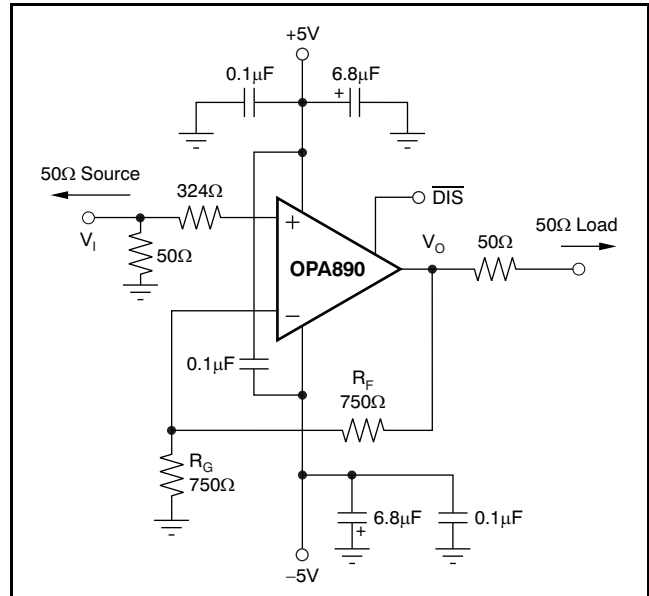
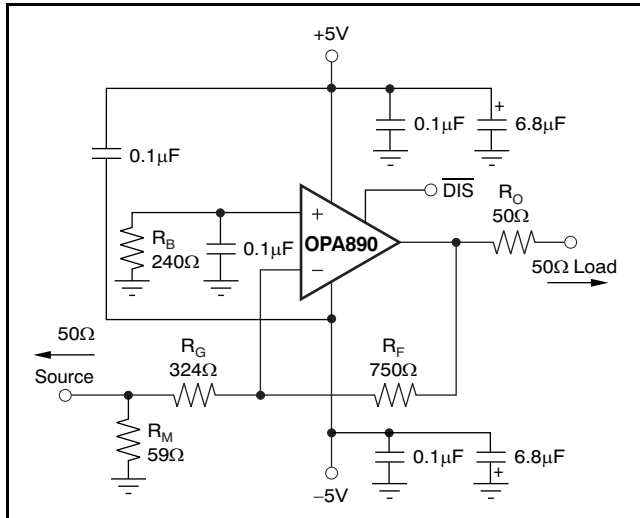

Figure 46. DC-Coupled, G = +2, Bipolar Supply, Specification and Test Circuit
Figure 51. Gain of $-2V/V$ Example Circuit
Figure 46 shows the dc-coupled, gain of +2, dual power-supply circuit configuration used as the basis of the $\pm 5\text{V}$ Electrical Characteristics and Typical Characteristics. For test purposes, the input impedance is set to 50 Ω with a resistor to ground and the output impedance is set to 50 Ω with a series output resistor. Voltage swings reported in the Typical Characteristics are taken directly at the input and output pins, while output powers (dBm) are at the matched 50 Ω load. For the circuit of Figure 46, the total effective load will be 100 Ω – 1.5k Ω . The disable control line is typically left open to ensure normal amplifier operation. Two optional components are included in Figure 46. An additional resistor (324 Ω) is included in series with the noninverting input. Combined with the 25 Ω dc source resistance looking back towards the signal generator, this configuration gives an input bias current cancelling resistance that matches the 375 Ω source resistance seen at the inverting input (see the DC Accuracy and Offset Control section). In addition to the usual power-supply decoupling capacitors to ground, a 0.1 μF capacitor is included between the two power-supply pins. In practical printed circuit board (PCB) layouts, this optional-added capacitor typically improves the 2nd-harmonic distortion performance by 3dB to 6dB.
Voltage-feedback op amps exhibit decreasing closed-loop bandwidth as the signal gain is increased. In theory, this relationship is described by the gain bandwidth product (GBP) shown in the *Electrical Characteristics*. Ideally, dividing GBP by the noninverting signal gain (also called the noise gain, or NG) predicts the closed-loop bandwidth. In practice, this relationship only holds true when the phase margin approaches 90° , as it does in high-gain configurations. At low gains (increased feedback factors), most amplifiers exhibit a more complex response with lower phase margin. The OPA890 is compensated to give a slightly peaked response in a noninverting gain of $2V/V$ (see Figure 46). This compensation results in a typical gain of $+2V/V$ bandwidth of $115MHz$, far exceeding that predicted by dividing the $130MHz$ GBP by 2. Increasing the gain causes the phase margin to approach 90° and
The OPA890 is a general-purpose, wideband voltage-feedback op amp; therefore, all of the familiar op amp application circuits are available to the designer. Inverting operation is one of the more common requirements and offers several performance benefits. Figure 51 shows a typical inverting configuration where the I/O impedances and signal gain from Figure 46 are retained in an inverting circuit configuration.
In the inverting configuration, three key design considerations must be noted. First, the gain resistor (R_G) becomes part of the signal channel input impedance. If input impedance matching is desired (which is beneficial whenever the signal is coupled through a cable, twisted-pair, long PCB trace, or other transmission line conductor), R_G may be set equal to the required termination value and R_F adjusted to give the desired gain. This approach is the simplest, and results in optimum bandwidth and noise performance. However, at low inverting gains, the resultant feedback resistor value can present a significant load to the amplifier output. For an inverting gain of $-2V/V$, setting R_G to 50Ω for input matching eliminates the need for R_M but requires a 100Ω feedback resistor. This option has the interesting advantage that the noise gain becomes equal to $2V/V$ for a 50Ω source impedance—the same as the noninverting circuits considered in the previous section. The amplifier output, however, now sees the 100Ω feedback resistor in parallel with the external load. In general, the feedback resistor should be limited to a range of 200Ω to $1.5k\Omega$. In this case, it is preferable to increase both the R_F and R_G values, as shown in Figure 51, and then achieve the input matching impedance with a third resistor (R_M) to ground. The total input impedance becomes the parallel combination of R_G and R_M .
The second major consideration, touched on in the previous paragraph, is that the signal source impedance becomes part of the noise gain equation and influences the bandwidth. For the example in Figure 51, the R_M value combines in parallel with the external 50Ω source impedance, yielding an effective driving impedance of $50\Omega \parallel 59\Omega = 27\Omega$. This impedance is added in series with R_G for calculating the noise gain (NG). The resulting NG is $3.14V/V$ for Figure 51, as opposed to only 2 if R_M could be eliminated as discussed previously. The bandwidth is therefore slightly lower for the gain of $-2V/V$ circuit of Figure 51 than for the gain of $+2V/V$ circuit of Figure 46.
The third important consideration in inverting amplifier design is setting the bias current cancellation resistor on the noninverting input (R_B). If this resistor is set equal to the total dc resistance looking out of the inverting node, the output dc error (because of the input bias currents) is reduced to $(\text{Input Offset Current}) \times R_F$. If the 50Ω source impedance is dc-coupled in Figure 51, the total resistance to ground on the inverting input is 351Ω . Combining this resistance in parallel with the feedback resistor gives the value of $R_B = 240\Omega$ used in this example. To reduce the additional high-frequency noise introduced by this resistor, it is sometimes bypassed with a capacitor. As long as $R_B < 350\Omega$, a capacitor is not required because the total noise contribution of all other terms is less than that of the op amp input noise voltage. As a minimum, the OPA890 requires an R_B value of 50Ω to damp out parasitic-induced peaking—a direct short to ground on the noninverting input runs the risk of a very high-frequency instability in the input stage.
Evaluating these two equations for the OPA890 circuit and component values (see Figure 46) gives a total output spot noise voltage of 17.4nV/√Hz and a total equivalent input spot noise voltage of 8.7nV/√Hz. This total includes the noise added by the bias current cancellation resistor (175Ω) on the noninverting input. This total input-referred spot noise voltage is only slightly higher than the 8nV/√Hz specification for the op amp voltage noise alone. This result will be the case, as long as the impedances appearing at each op amp input are limited to the previously recommend maximum value of 350Ω. Keeping both $(R_F \parallel R_G)$ and the noninverting input source impedance less than 350Ω satisfies both noise and frequency response flatness considerations. Because the resistor-induced noise is relatively negligible, additional capacitive decoupling across the bias current cancellation resistor (R_B) for the inverting op amp configuration of Figure 51 is not required.
The balanced input stage of a wideband voltage-feedback op amp allows good output dc accuracy in a wide variety of applications. The power-supply current trim for the OPA890 gives even tighter control than comparable amplifiers. Although the high-speed input stage does require relatively high input bias current (+25°C worst case, 1.6μA at each input terminal), the close matching between them may be used to reduce the output dc error caused by this current. The total output offset voltage may be considerably reduced by matching the dc source resistances appearing at the two inputs. This matching reduces the output dc error resulting from the input bias currents to the offset current times the feedback resistor. Evaluating the configuration of Figure 46, and using worst-case +25°C input offset voltage and current specifications, gives a worst-case output offset voltage equal to: